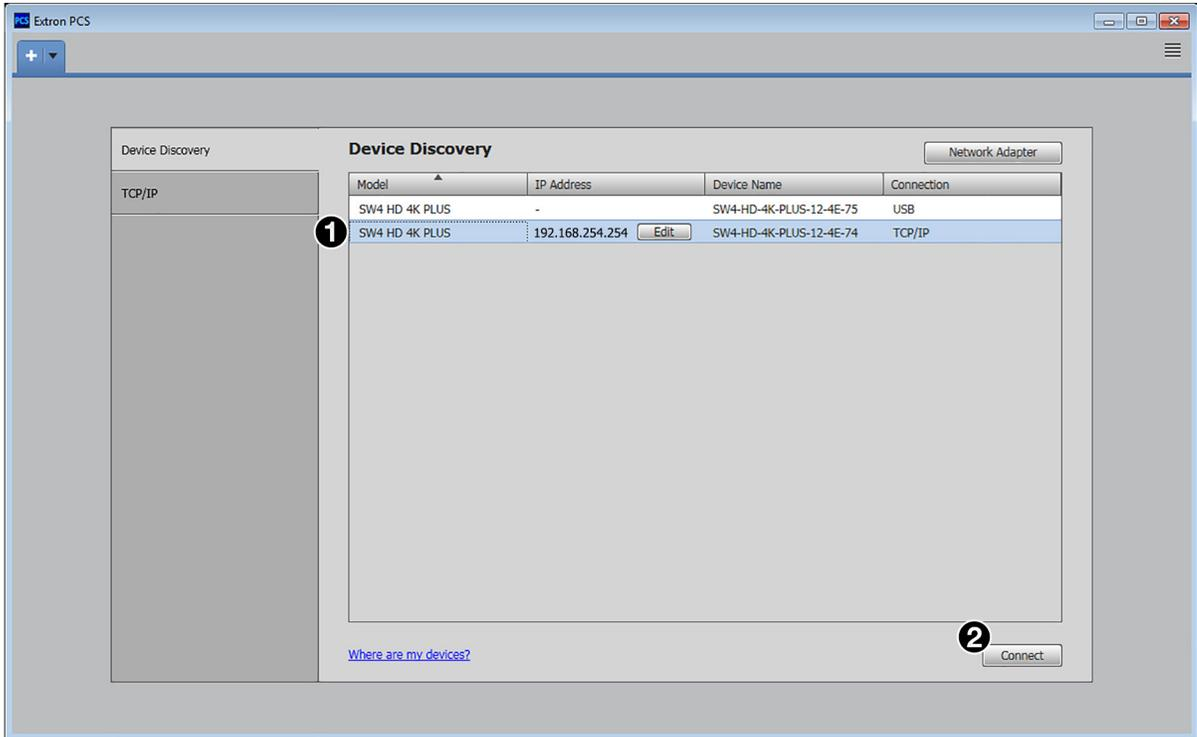

Figure 20. Device Discovery Window
1. Click **Start > Programs > Extron Electronics > Extron Product Configuration Software > Extron Product Configuration Software**. The Product Configuration Software opens with the Device Discovery window (see figure 20).
2. Select a device (one of the switchers in the SW HD 4K PLUS series) on the network or the USB port (see figure 20, ①)
3. Click **Connect** (②).